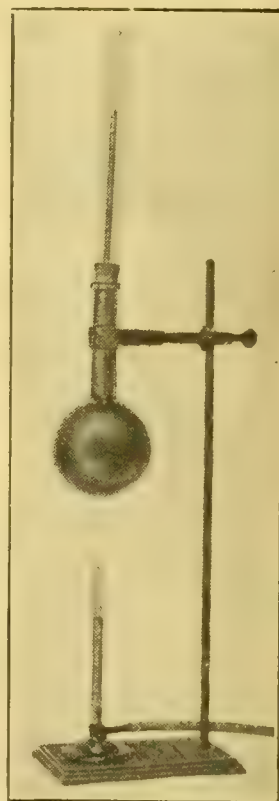

FIGURE 144.—BULB AND SCALE.
89. Rate of Expansion. — While this experiment shows that liquids expand, it only *compares* their rates of expansion. The rate of expansion of a liquid can be *measured* by putting the liquid in a bulb of known capacity. This bulb is attached to a tube of small diameter, which must also be known (Figure 144). To calculate the rate of expansion of the liquid, the rise of the liquid for a known increase in temperature must be observed; and a correction made for the expansion of the bulb. The result of the calculation would show